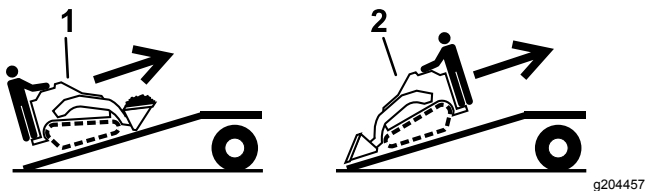

Figure 33
5. Load the machine onto the trailer with the heavy end up the ramp, carrying loads low (Figure 33).